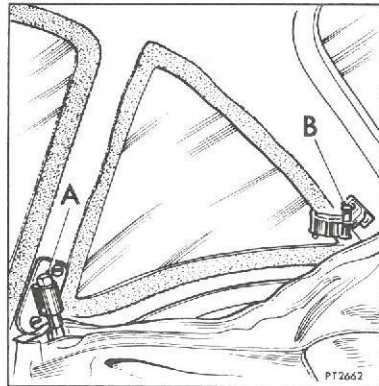

Fig. 16
Unscrew the domed-head bolts securing the hard top side brackets to the door pillar brackets (A) (Fig. 16).